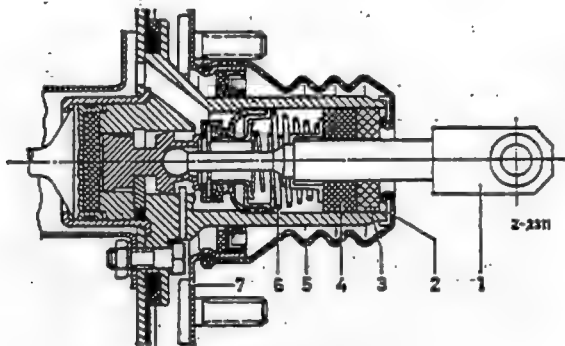

Fig. 42-16/9
2. Remove the protective cap (5) from the vacuum cylinder (7) and pull off toward the rear over the piston rod (1) (Fig. 42-16/9).